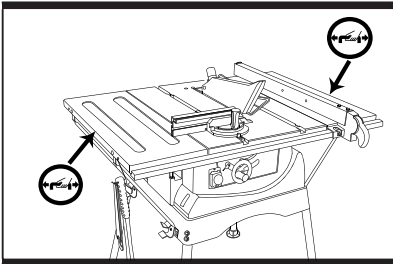

Fig 25
- 1) Symbol for transportation position (See fig. 25).